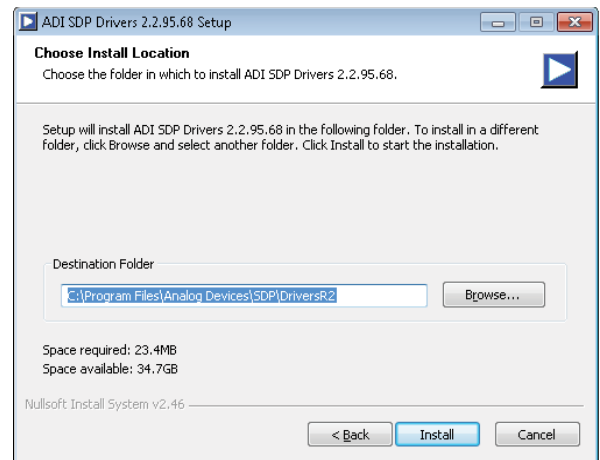

Figure 11. Choose Installation Location
- Click **Browse** and choose the installation location, and then click **Install**. The default folder is shown in Figure 11.